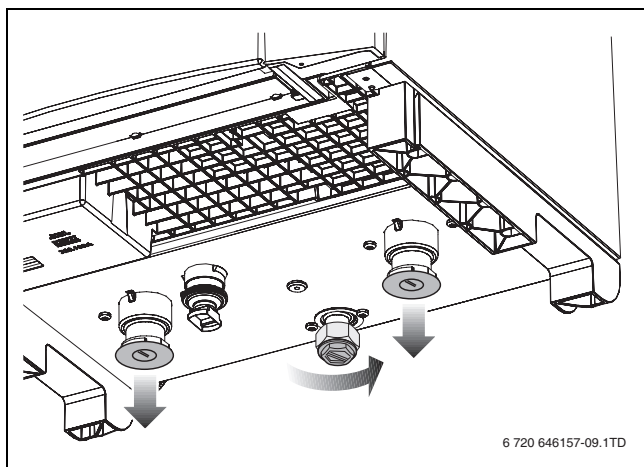

Fig. 10 Removing the covers - boiler bottom
- ▶ Remove the protective covers from the bottom of the boiler (→ fig. 10).